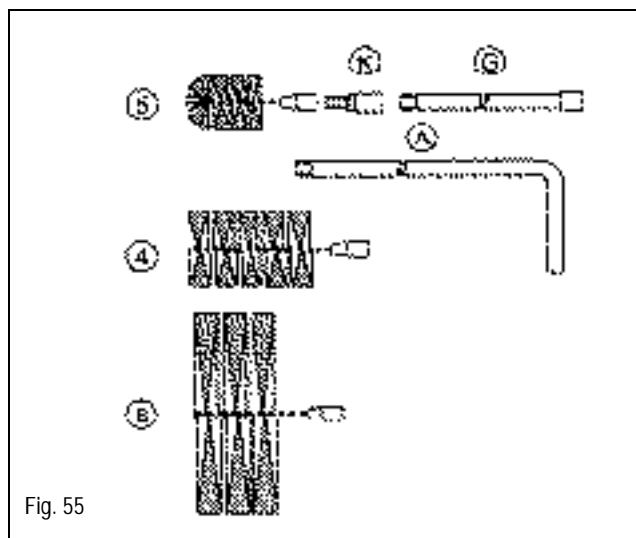

Fig. 55
- Refer to Figure 55 and the table below for cleaning brush selection.